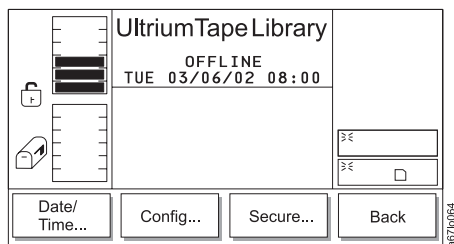

Figure 4-113. Utils Submenu
2. Press the button below the **Utils** softkey. The Utils Dialog displays (see Figure 4-113).
5. Verify that the new settings are correct on the display, then press the button below the **OK** softkey to accept the new backlighting and audio settings. The Utils Submenu redisplay (see Figure 4-113).